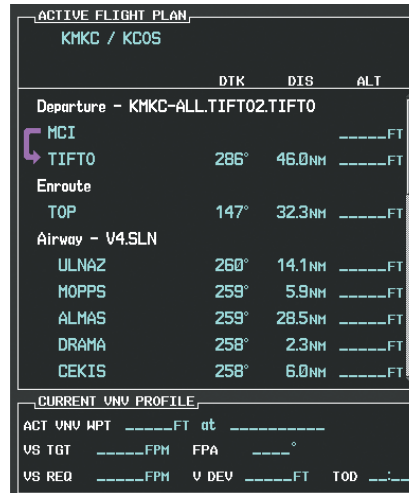

Figure 5-114 V4 is Loaded in the Flight Plan
- l) V4 is now loaded into the flight plan as shown in Figure 5-114.